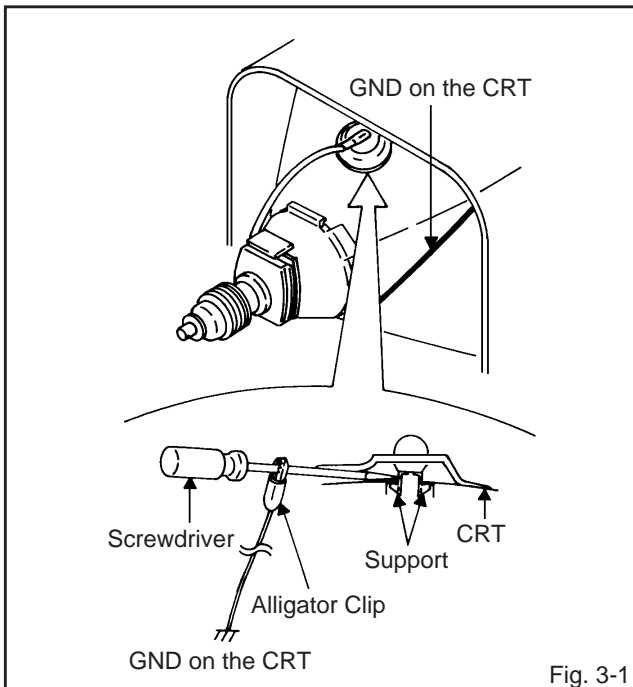

Fig. 3-1
1. Follow the steps as follows to discharge the Anode Cap. **(Refer to Fig. 3-1.)**